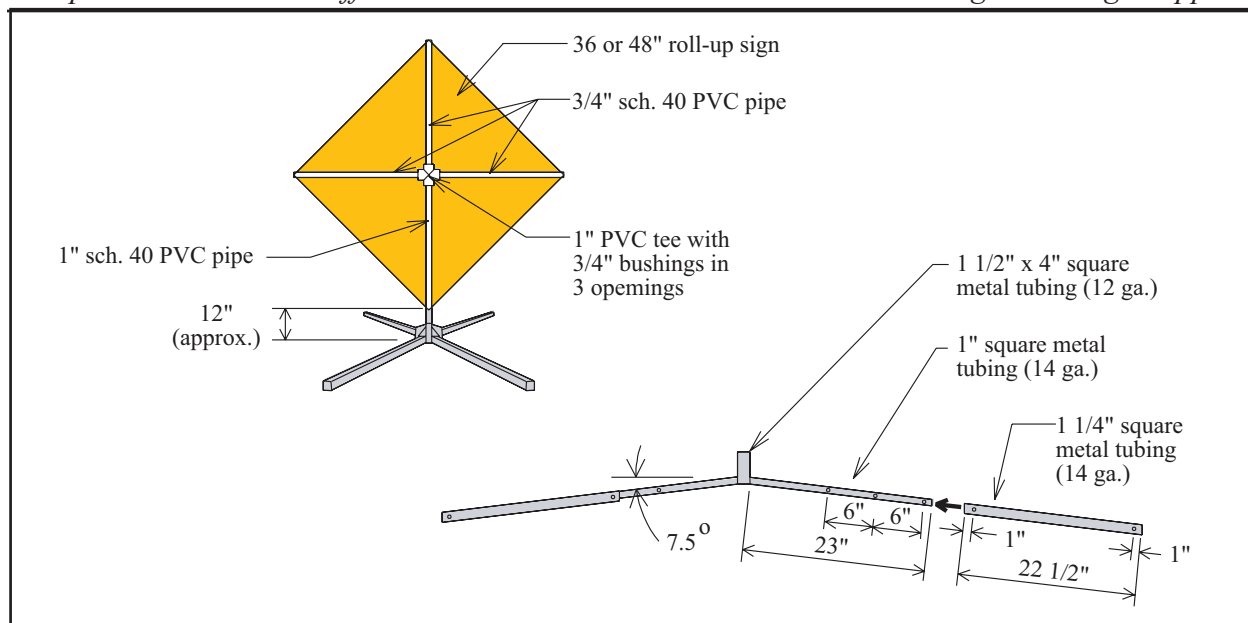

Figure J-8. Barricades Unlimited sign support
- ❖ Barricades Unlimited sign support (Figure J-8.)